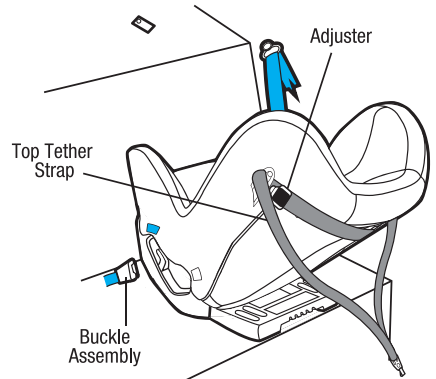

Figure 1
Step 2: Make sure Top Tether strap is as in illustration (refer Figures 1 and 3) i.e. positioned around restraint back.